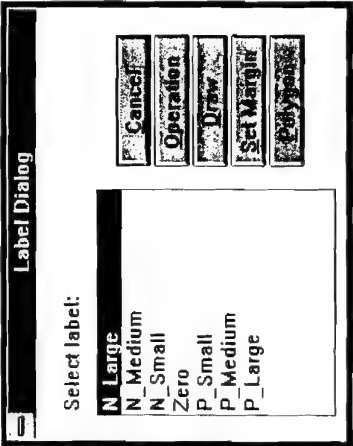
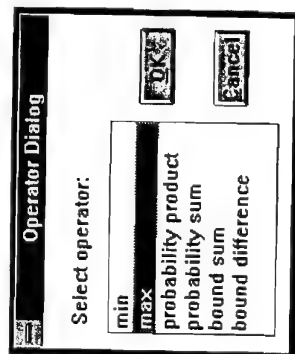

Figure 2-5 Fide/MF-Edit/Label Dialog Box
Figure 2-6 MF-Edit/Operator Dialog Box
Whether you have selected an editable or non-editable membership function, the next dialog box encountered is shown in Figure 2-5 below.
MF-Edit supports a powerful tool for membership function editing. You can perform standard operations on existing membership functions to produce a resultant membership function. Press the Operation button of the Label Dialog box as shown in Figure 2-5 above to initiate an operation. An Operator Dialog box comes up as shown in Figure 2-6.
2. An Operand 1 dialog box similar to that shown in Figure 2-5 above appears. Click on a label name to select it as operand 1. Press the OK button to choose the membership function represented by the label name.
The Label Dialog (Figure 2-5) allows you to select a particular membership function for editing. Use your mouse to click on a label. It is highlighted in the